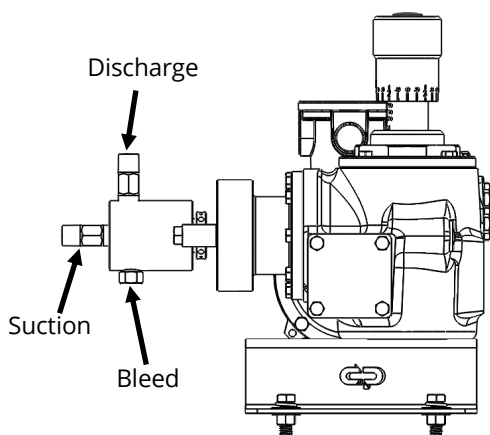

Figure 3
9. Connect the suction line to the suction check valve. Connect the discharge line to the discharge check valve. Line size must be equal or greater than check valve connection. See Figure 3. Liquid level should be equal to or higher than pump inlet.